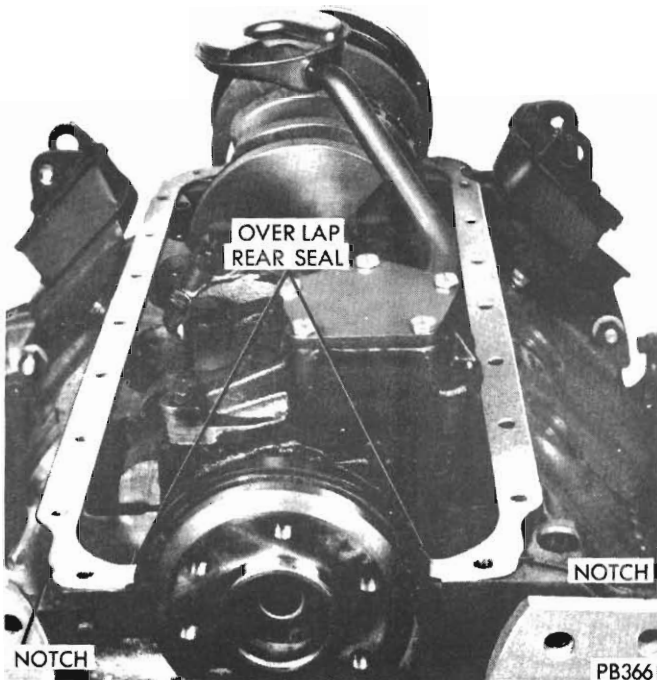

Fig. 2 - Pan side gaskets and rear seal installation (360 c.i.d. engines)
- (1) Using a new pan gasket set, install oil pan, tighten screws to 200 lbs. in. Be sure notches on side gaskets are installed as shown in figure 2 on 360 cubic inch engines.
- (2) Re-connect exhaust cross-over pipe to manifolds.
- (3) Re-connect the steering and idler arm ball joints to the steering centre link.
- (4) Re-connect wires to starting motor and lower vehicle to floor.
- (5) Install the dipstick, fill with the proper grade and quantity of motor oil, connect battery ground cable.